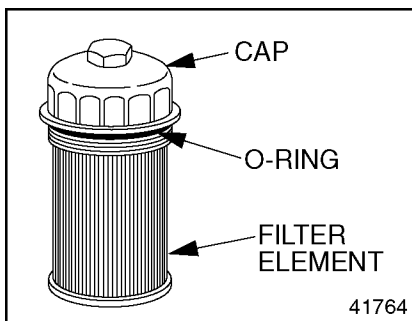

Figure 30 Cap with Oil Filter Element
4. Remove both the filter cap and the filter element. To release the filter element, twist the lower edge of the filter element to the side (see Figure 30).
5. Replace the O-ring on the cap (see Figure 30).